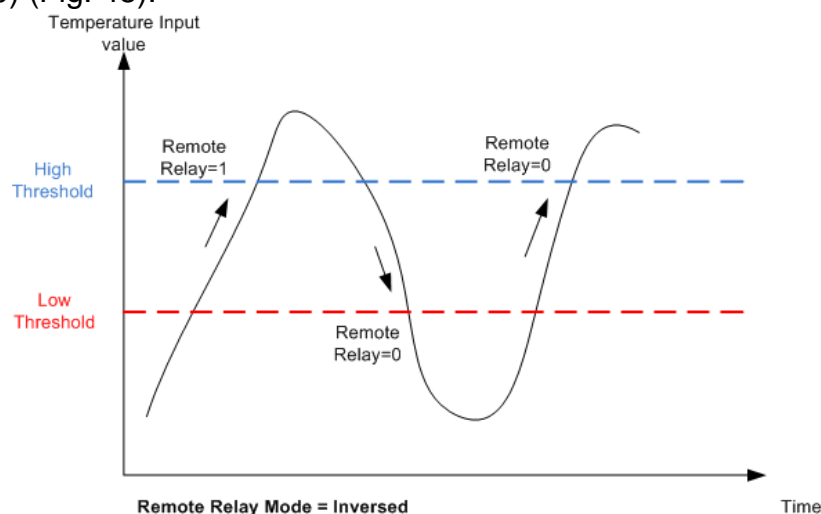

Figure 48. Controlling remote relay when **Remote Relay Mode** parameter is "Inversed"
- *Inversed* - when the rising Temperature Input value crosses the **High Threshold**, the remote relay (digital output) will be ON (1). When the falling value crosses the **Low Threshold** the remote relay (digital output) will be OFF (0) (Fig. 48).